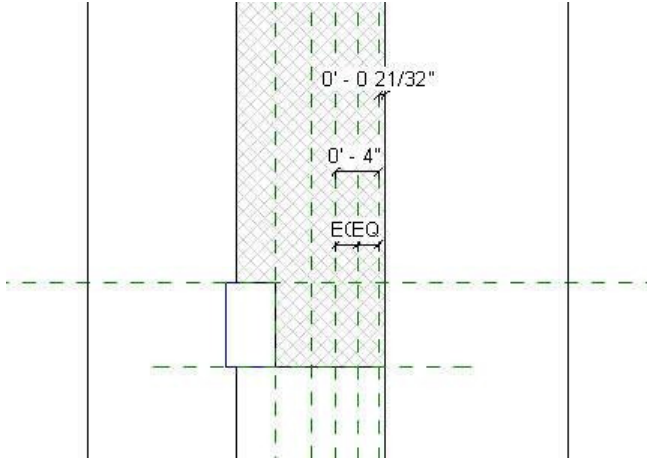

Figure 29. The frame depth dimensions.
5. Using the Aligned tool from the Detail ribbon, create the three dimensions shown in Figure 29.